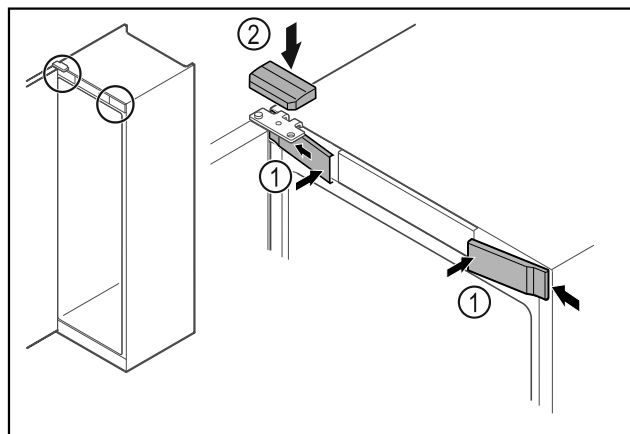

Fig. 23
- ▶ Hook in the front covers Fig. 23 (1) on the side and snap them into place.
- ▶ Snap on the top cover Fig. 23 (2) from above.